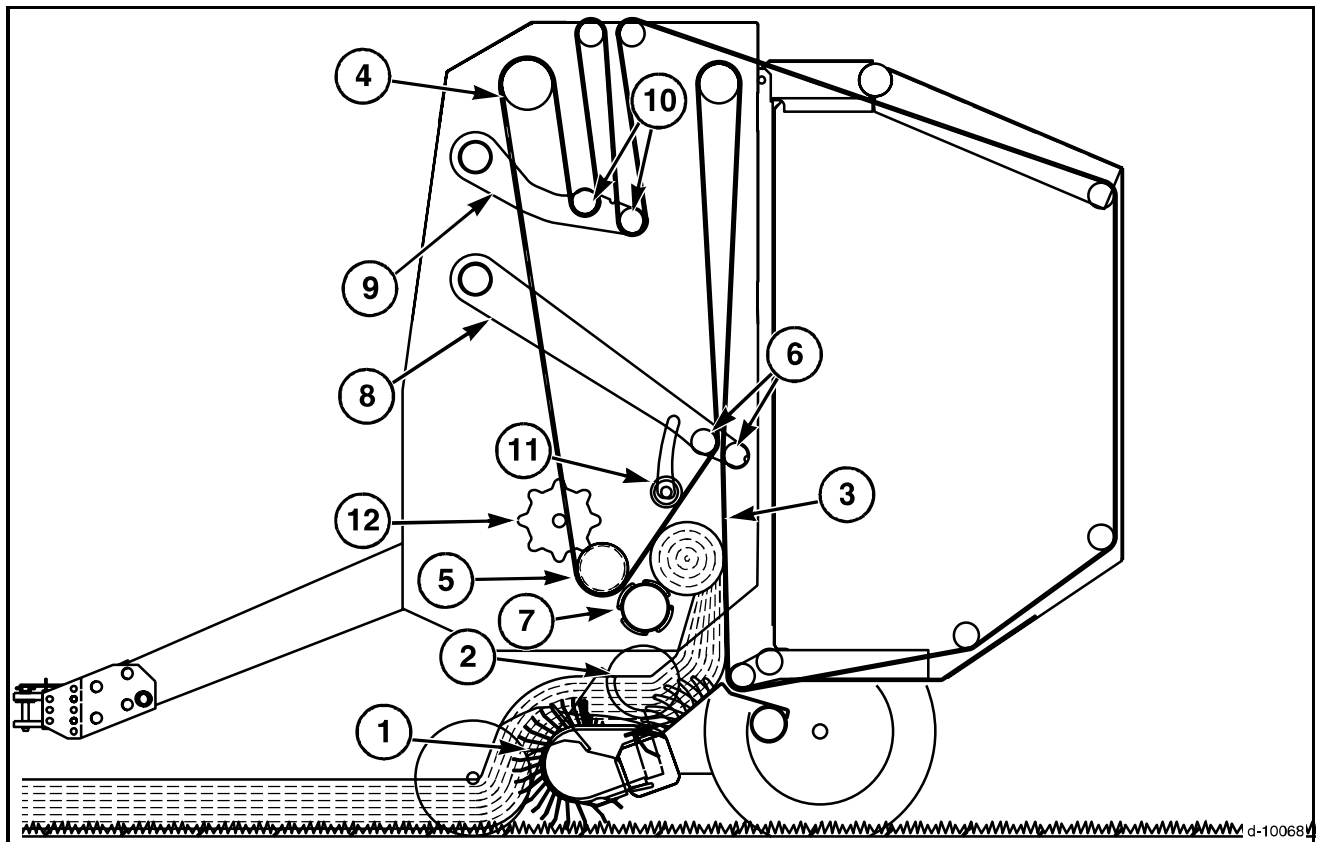

FIG. 4
FIG. 4: Windrowed crop is feed into the baler by the pickup assembly (1). The crop is moved to the chamber opening by the left-hand and right-hand augers (2). The stuffer assembly feeds the crop into the bottom of the open throat bale chamber. In the bale chamber the crop contacts the rough top surface of the forming belts (3), which are moving upward. The forming belts are driven by the upper (4) and lower (5) drive rolls. The forming belts carry the crop to the top of the starting chamber that is formed by the front and rear bale density rolls (6). The motion of the forming belts turns the crop downward against the starting roll (7). The core is started and begins to roll.